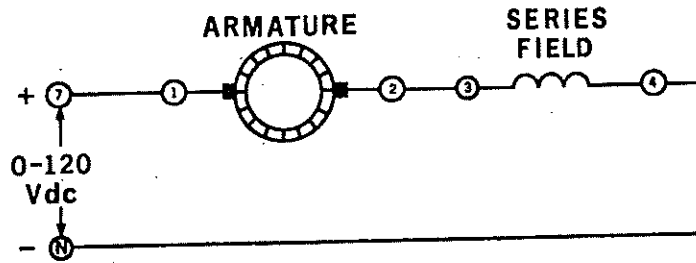
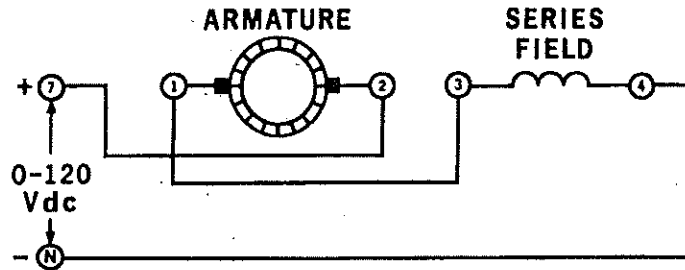

Figure 3-2.
Figure 3-3.
- 5. Using your Power Supply, DC Voltmeter/Ammeter and DC Motor/Generator, connect the circuit shown in Figure 3-2. Notice that the armature is connected in series with the series field winding, across the input voltage.
- 9. Reconnect your circuit as shown in Figure 3-3. (The only change made to the circuit of Figure 3-2 is that the connections to the armature have been reversed).
- 10. Repeat procedures 6 through 8 (using the reversed armature connections shown in Figure 3-3).